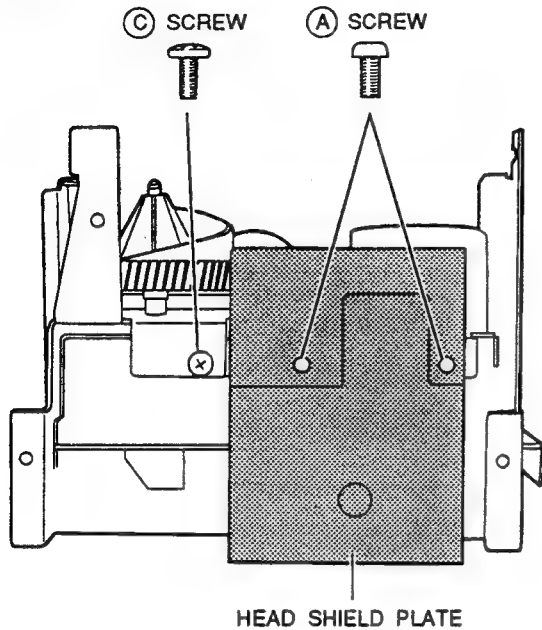

Fig. 3-1
- 3) Remove the (C) and two (D) screws and remove the SIDE PLATE (R) (refer to Fig.3-1 and 3-2).
- 4) Remove the two (E) screws and then remove the SIDE PLATE (L).
- 1) Remove the two Ⓐ screws and remove the HEAD SHIELD PLATE as shown in Fig. 3-1.